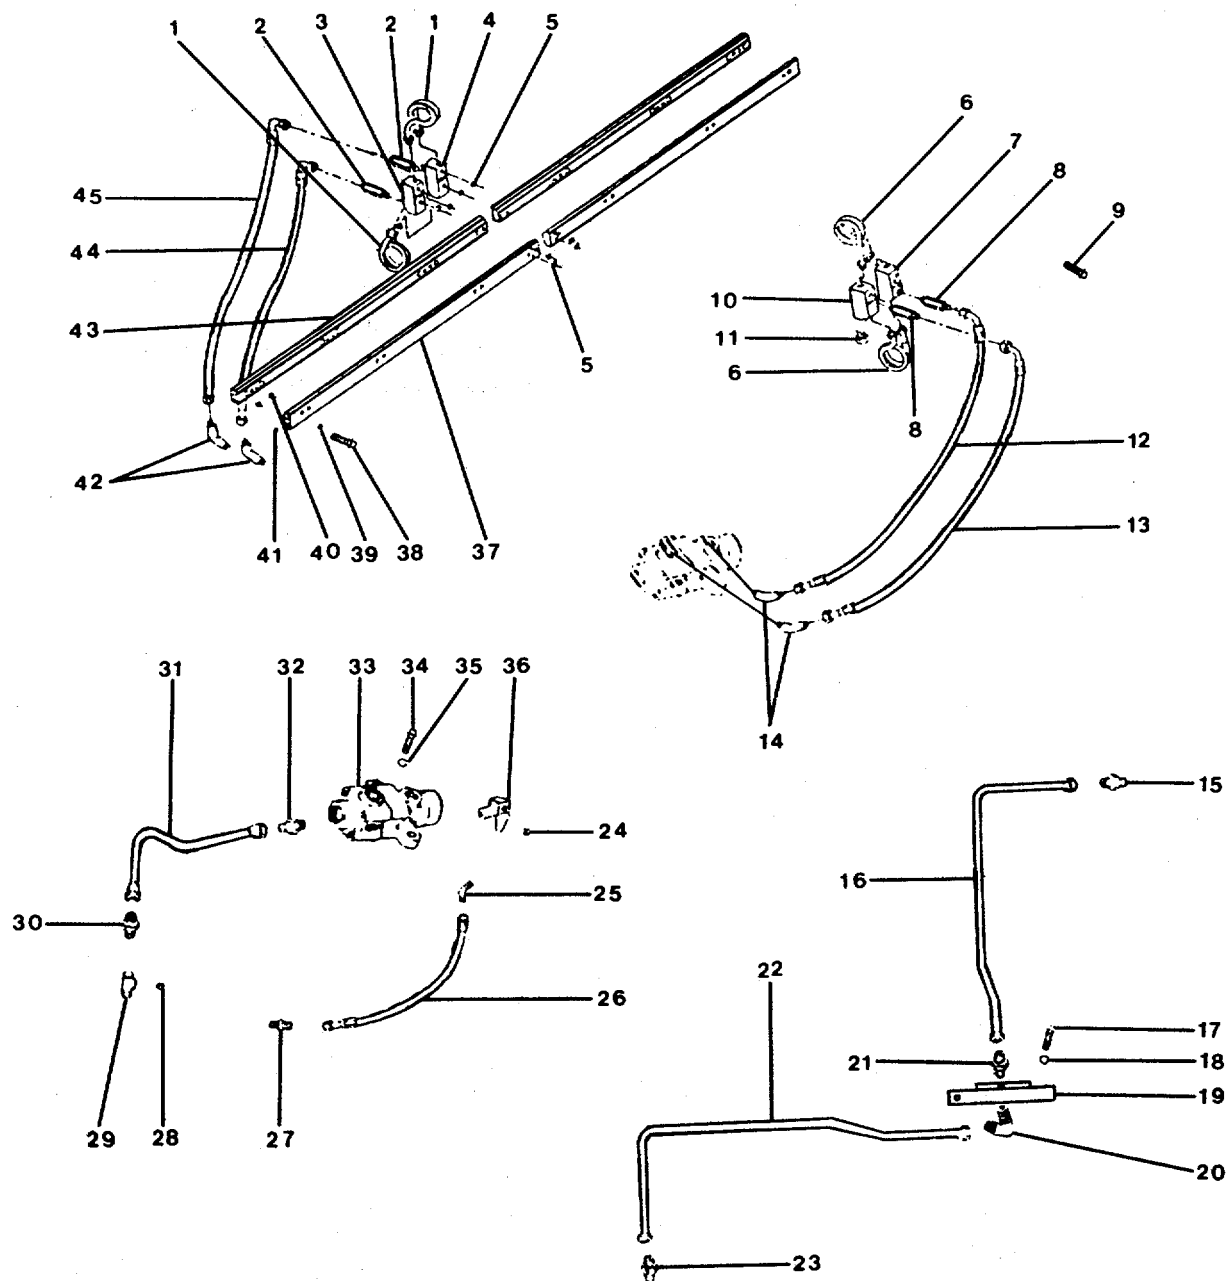

FIGURE 3-11. Fuel Manifold Group.
- g. Install lockwashers (4) and hexagon head capscrews (3). Tighten capscrews to 35 ft-lb (45 Nm)
- h. Position gaskets (5) with bolt holes aligned.
- i. Position water transfer connections (6), on gaskets (5), with bolt holes aligned.
- j. Install hexagon head capscrews (8) and lockwashers (7). Tighten to 35 ft-lb (45 Nm).
3.19 Remove/Repair Fuel Manifold Group. (FIG. 3-11)